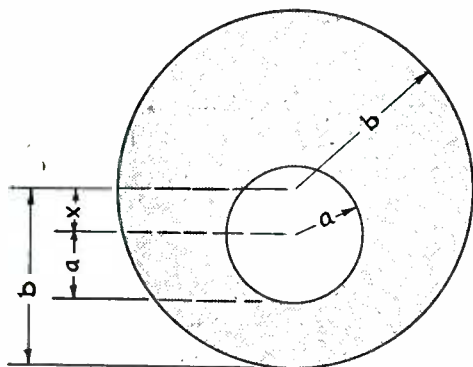

Fig. 1—Configuration of eccentric transmission line with inner conductor displaced by amount x
d is wall thickness. δ is given by Eq. 1 or Fig. 1.
δ_1 is given by Eq. (1) or Fig. 1.
0.34, and 5. These correspond approximately to silver coating on brass, solder coating on copper, and copper coating on iron or Fernico. It is seen that in all cases when coating thickness is equal to or greater than the depth of penetration, δ_1 , for the material of the coating (obtained from Eq. 1 or Fig. 1), the composite conductor is nearly as good, or as bad, as though the conductor were made entirely of the coating material.
R_2 given by Eq. (2) or Fig. 1.
It is of interest to find that the first order corrections are independent of conductivity of the coating. For any practical cases (d/λ small and R_{s2} less than one, as shown by Fig. 1) the correction to resistance is always small, but the correction to internal reactance may be very large since the coating may be much thicker than depth of penetration in the coated conductor, and so may contain much more magnetic flux than the coated conductor.
If there is no insulation present in the transmission line, we may use $v = 3 \times 10^{10}$ cm per second, and compute C from the static capacitance between conductors. The configuration in which we are interested is shown in Fig. 1. The radius of the outer conductor is b , the radius of the inner conductor is a , while the axis of the inner conductor is displaced an amount x from the axis of the outer conductor. The capacitance of this configuration is¹